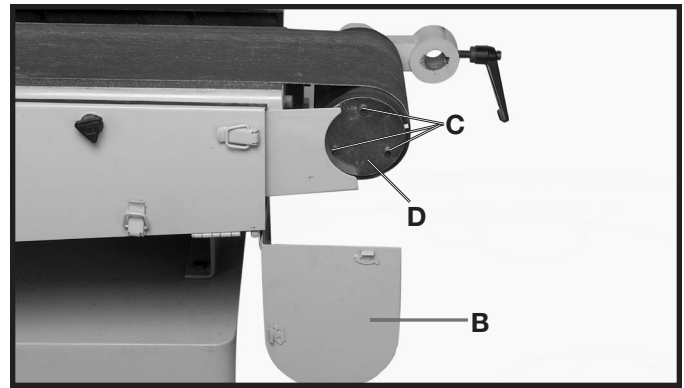

Fig. 20
2. Move belt guard (B) down as shown in Fig. 20.
3. Remove the three screws (C) and drum plate (D) Fig. 20.